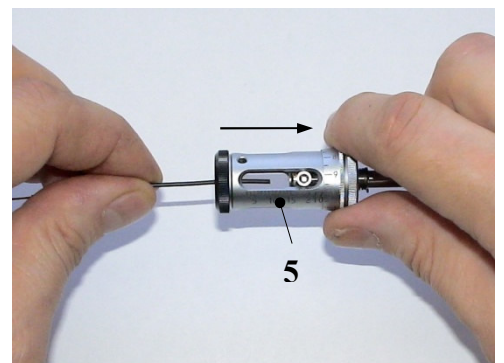

Fig. 8 Insert wire to desired length
release the stripping head (5). (Fig. 8).